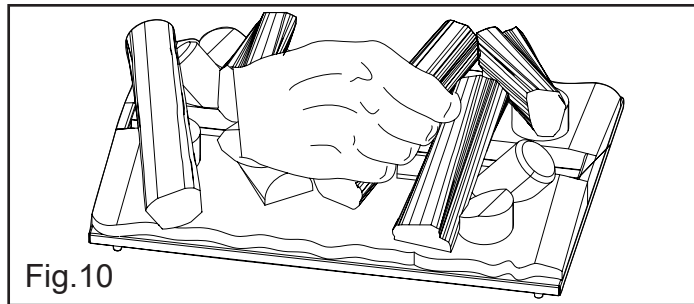
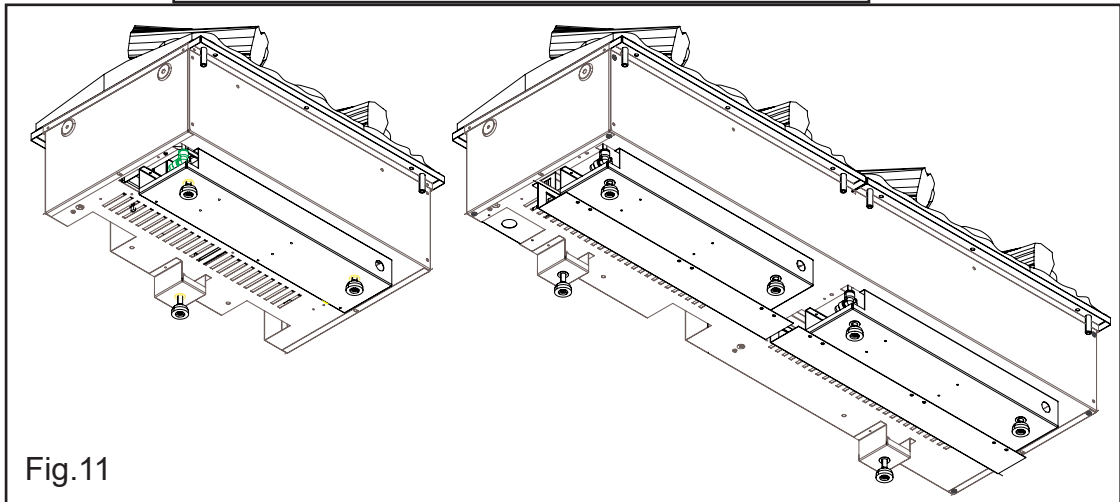
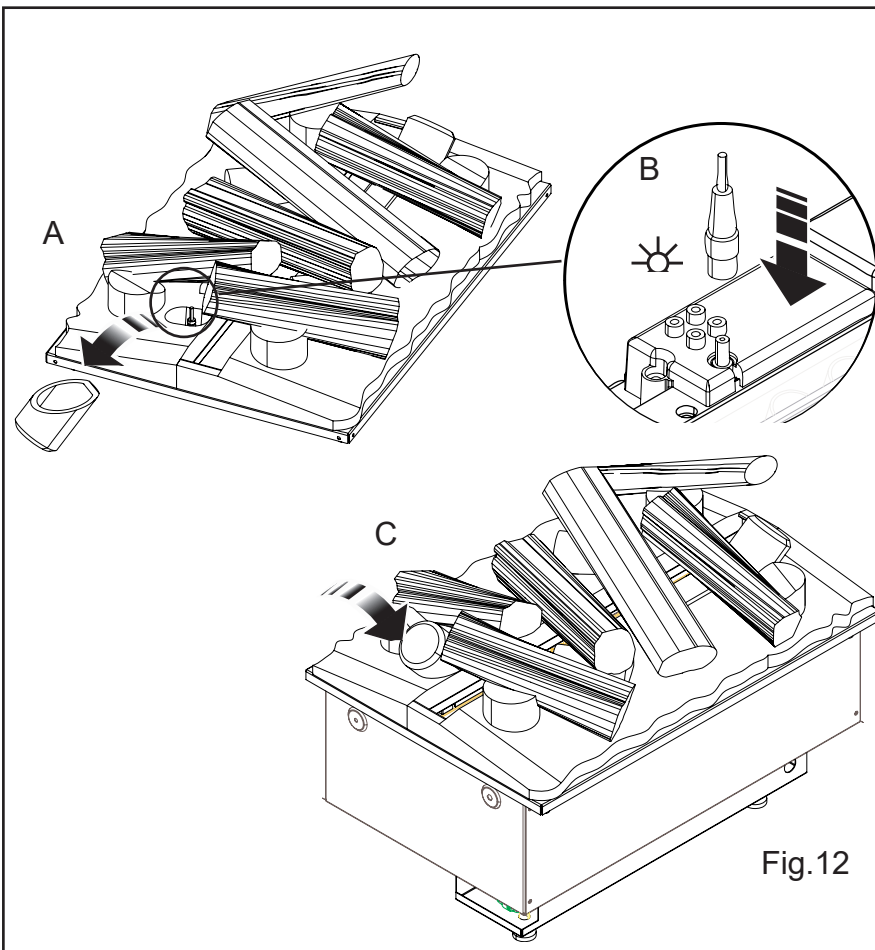

Fig.10
Fig.11
Fig.12
CAUTION: The fuelbed weighs 5kg. Be sure to only lift the Fuelbed by the two center logs (Fig.10). These are the strongest. Place the Fuelbed on top of the appliance, there are 4 plastic guides under the Fuelbed to help locate it, (Fig.11). The Fuelbed can be placed front to back or back to front, it is the customers preference how this is to be orientated. Once in place lift off the small loose log, this is held in place by magnets. Under this log there is a DC wire jack and a hole through the fuelbed. Connect this to the corresponding DC wire jack on the product through the holes in the Fuelbed, (Fig.12). The product is now assembled and is ready to be switched on.
2. Press switch 'A' to the OFF (O) position.
8. Press switch 'A' to the ON (I) position
9. Place the fuelbeds back on the product and make the DC connection see Fig12